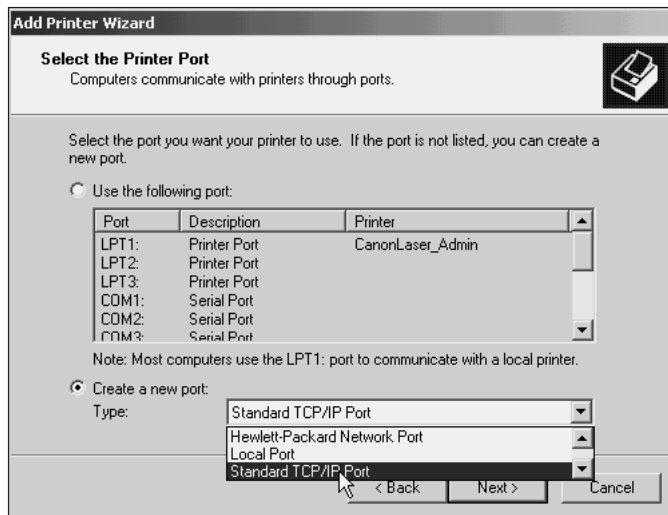

Figure 11-15 Configuring a TCP/IP port
5. Open the Type list box and select Standard TCP/IP Port, as in Figure 11-15 (note that you also can install non-IP print servers using the other options, such as Hewlett-Packard Network Port, Local Port, and AppleTalk Printing Devices). Click Next.